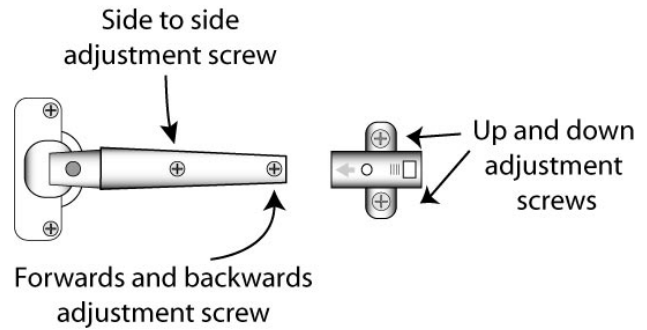

Fig. 4
3. Make any necessary leveling adjustments to doors and hinges using screws. (See Fig. 4.)
NOTE: Door faces may be adjusted up and down by loosening the hinge plate's fixing screws and sliding the door up and down then tightening the fixing screws again. The width of the gap between the doors may be adjusted by tightening or loosening the adjustment screw on the front of the hinge arm. (See Fig. 4.)